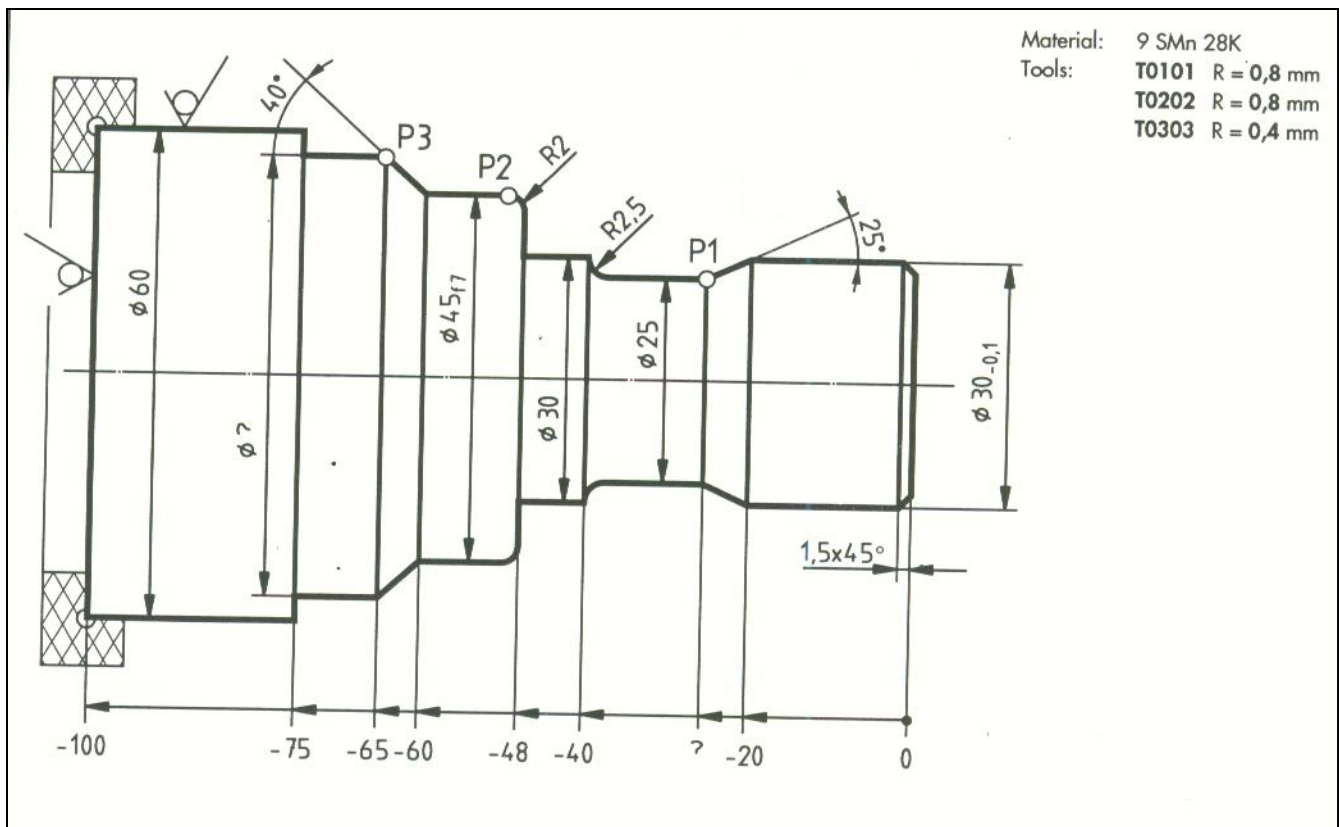

Figure QU5 Machine Component B
- b) Write a concise part program to machine the component B shown in Figure QU5, given that the Feed rate $F=0.4$ mm/rev and the spindle speed $S = 560$ rev/min using a tool T0101 and T0202 for roughing to 0.2mm of final dimensions, while Feed rate $F=0.15$ mm/rev and the spindle speed $S = 780$ rev/min using a tool T0303 for finishing. Assuming that the blank is 100 mm long x 60 mm diameter. [15]